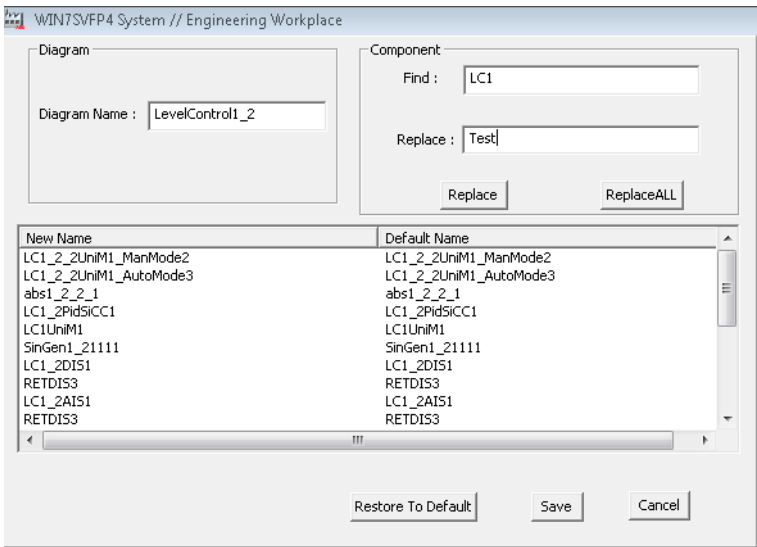

Figure 98. Find and Replace Dialog
- 5. Enter the required strings in **Find** and **Replace** fields, see Figure 98.